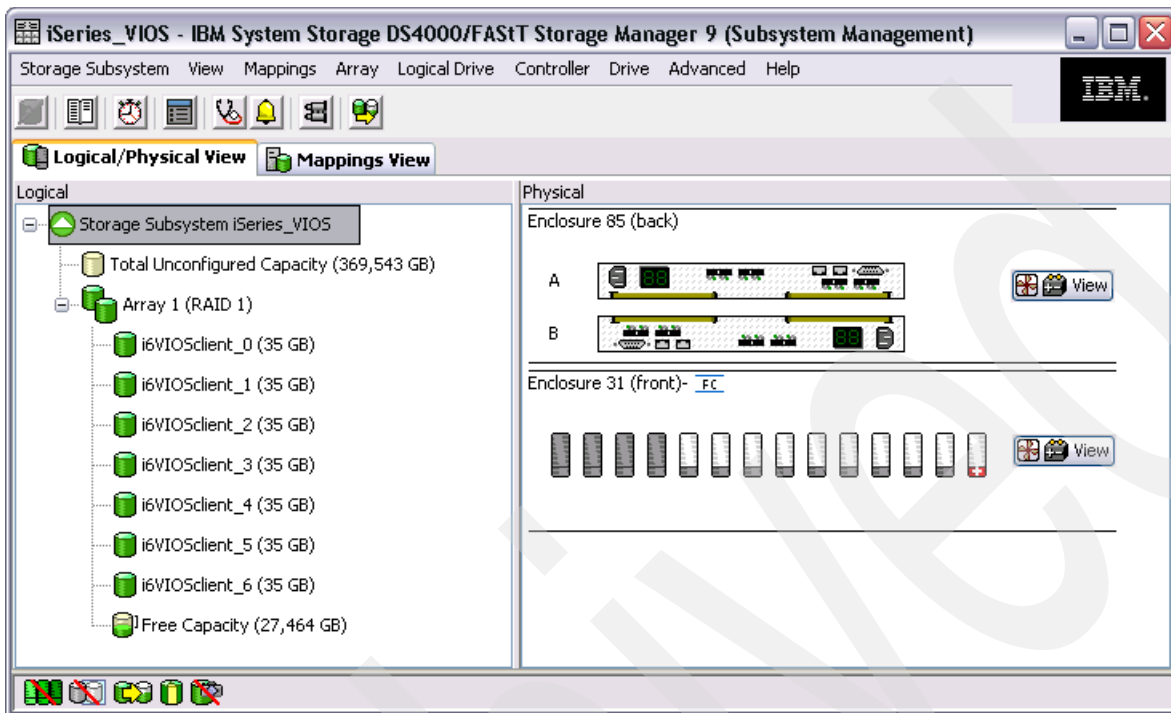

Figure 7-60 DS Storage Manager logical drive configuration
12. The logical drive configuration that we created for our IBM i client partition of VIOS (consisting of seven 35 GB logical drives on a RAID-10 array that are not mapped to a host yet) is shown in Figure 7-60.